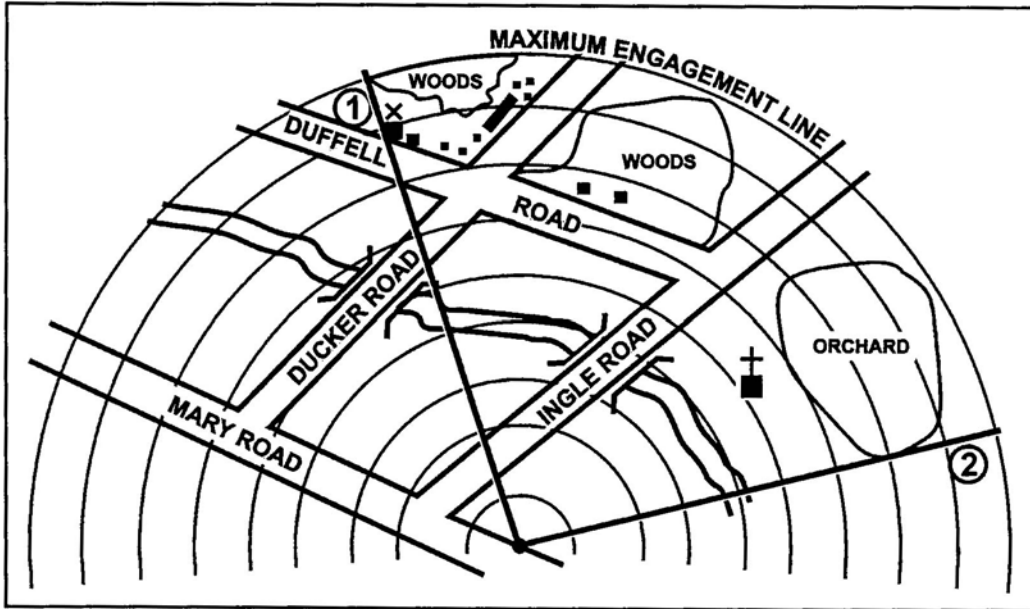

Figure 4. Maximum engagement line.
- c. Maximum engagement line. If there are no limitations, ensure the maximum engagement line follows the arc of the circle representing the maximum engagement range (Figure 4). Draw the maximum engagement line in front of anything that will prevent firing to the maximum engagement range.